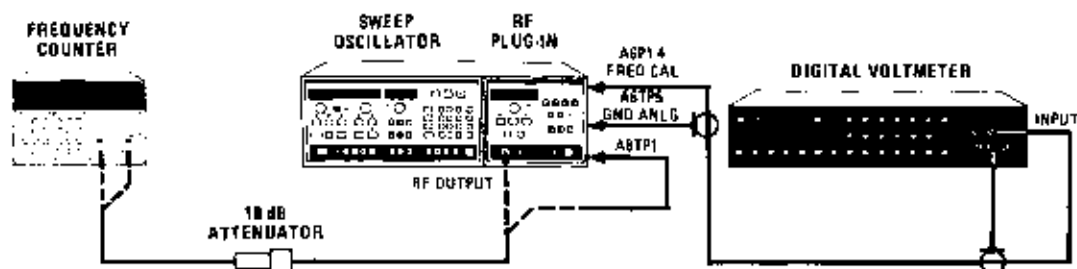

Figure 5-8. Test Setup for Frequency Accuracy Adjustments
YO Driver Board adjustments should be avoided if possible. Set up equipment as shown in Figure 5-8 and perform step 23 in Paragraph 5-17 to check frequency accuracy and sweep linearity across the band. If frequencies are within  $\pm 5$  MHz tolerance, do not make these YO Driver Board adjustments.
1. Press 8350A **INSTR PRESET**, set **STOP** frequency to 2 GHz, and press 83522A **AMPTD MKR**. Connect Frequency Counter to A8TP1 through the 1 : 1 probe (Figures 5-8 and 5-9) and check that output frequency is  $50.000 \text{ MHz} \pm 250 \text{ Hz}$ . If not, adjust A8C4 50 MHz Oscillator for correct frequency. If necessary, select A8C3 for correct adjustment range. Refer to Adjustment paragraph 5-27.
2. Connect equipment as shown in Figure 5-8 with frequency counter and 10 dB attenuator connected to RF OUTPUT. Connect the DVM to A6P1 pin 4 (FREQ CAL) and common to A6P5 (GND ANLG).